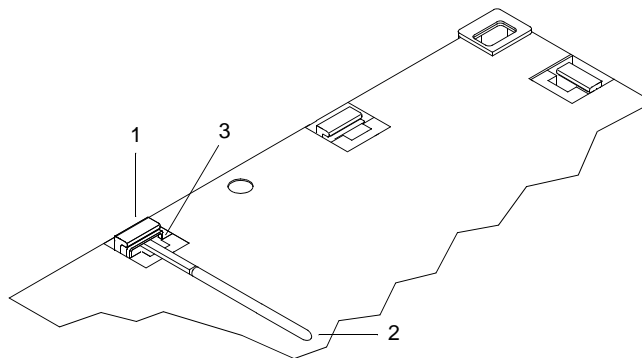

Figure 15. Raising Female Guillotine Bar
1. Raise female guillotine bar (figure 15, item 1).
- a. Insert crowbar (figure 15, item 2) behind spring bar (figure 15, item 3) under female guillotine bar (figure 15, item 1).
- b. Rotate crowbar (figure 15, item 2) downward to clear spring bar (figure 15, item 3) from deck overhangs and allow female guillotine bar (figure 15, item 1) to move upward.
- c. Raise female guillotine bar (figure 15, item 1) approximately six inches until it stops.
- d. Remove crowbar (figure 15, item 2).
5. Drive female guillotine bar (figure 15, item 7) down using a sledgehammer.